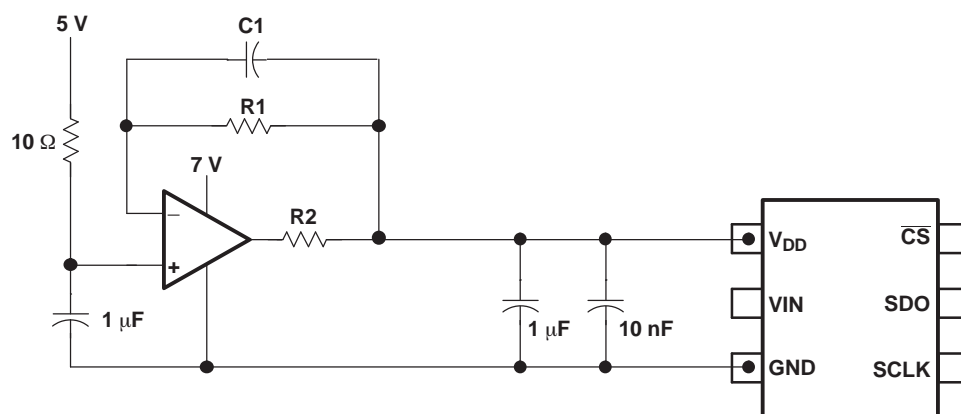

Figure 27. Buffering with the OPA735
- A low-pass filtered version of the system supply followed by a buffer like the zero-drift OPA735 can also be used in cases where the system power supply is noisy. Care should be taken to ensure that the voltage at the VDD input does not exceed 7 V (especially during power up) to avoid damage to the converter. This can be done easily using single supply CMOS amplifiers like the OPA735. Figure 27 shows one possible application circuit.